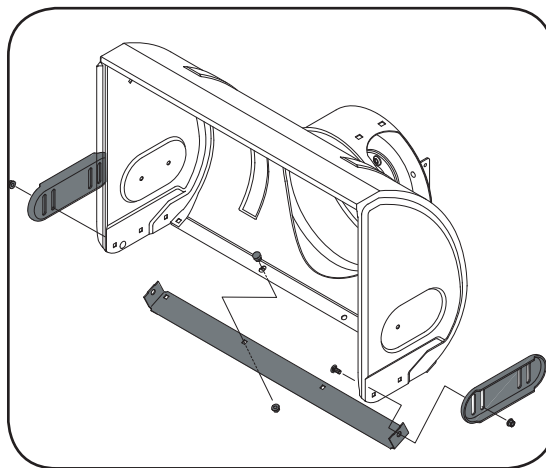

Figure 20
1. Remove four carriage bolts and lock nuts which attach two skid shoes to the snow thrower on two sides. See Figure 20.
1. After removing both skid shoes, remove four carriage bolts and lock nuts which attach shave plate to the snow thrower housing. See Figure 20.